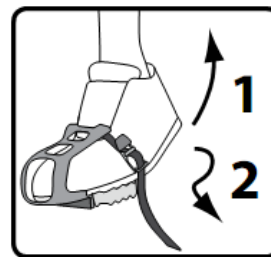

Figure 9
1) The feet should be firmly fixed to the pedals. Pull upwards in the strap to tighten and then Tuck it in to keep it in place. see figure 9.